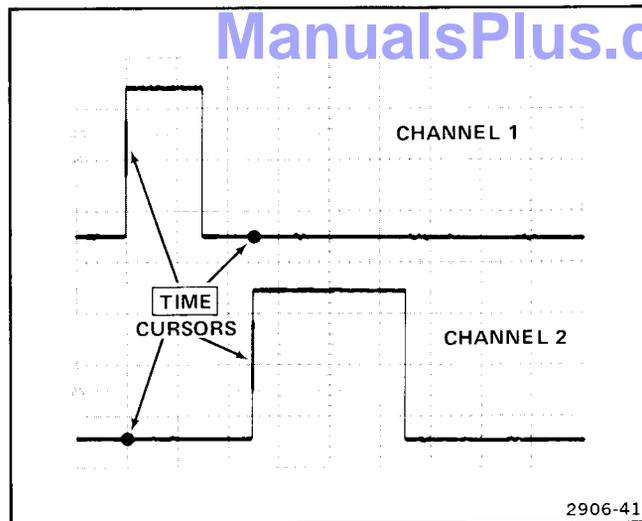

Figure 24. Time difference between two time-related pulses.
7. Press the TIME Cursors Function button in and use the CURSOR control knob to position the active cursor dot to the 50% point of the Channel 1 pulse leading edge (see Figure 24).